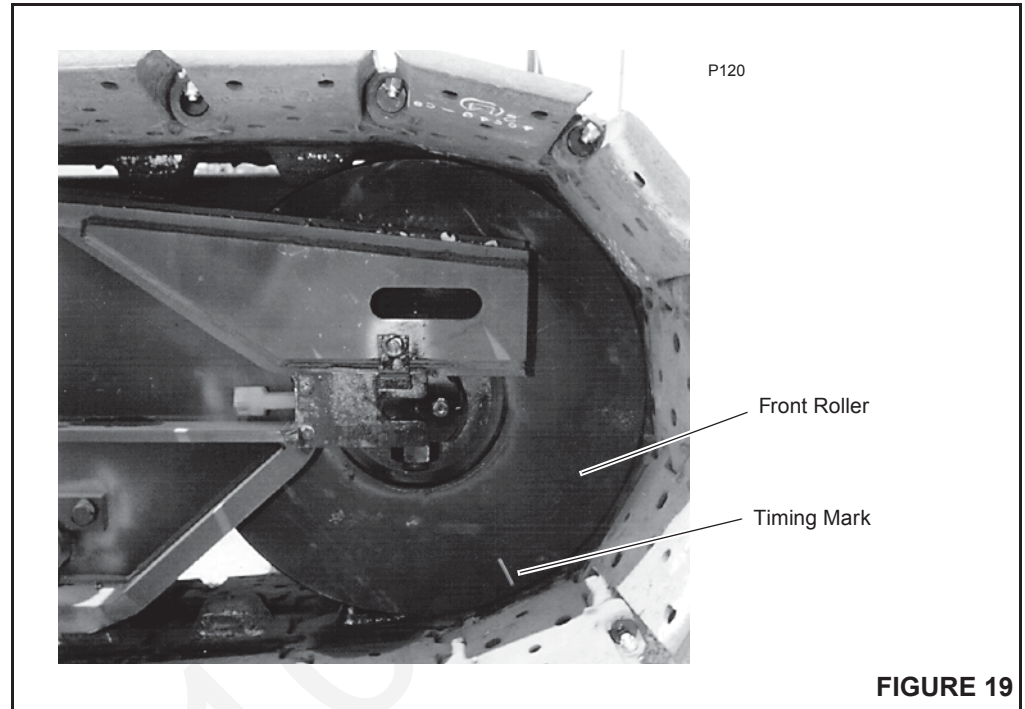

FIGURE 19
1. Put a timing mark on either front roller (Figure 19).